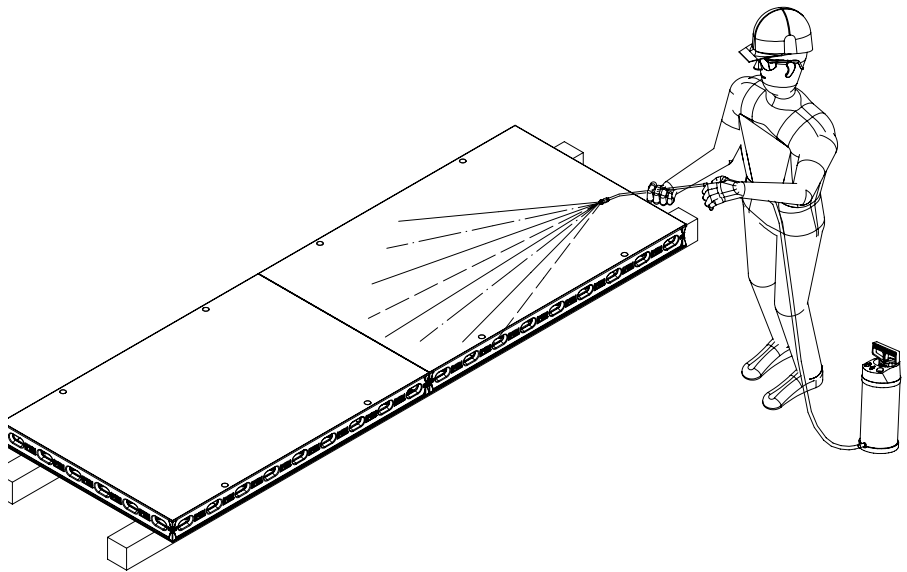

Fig. E1.00
- There is no chemical reaction between the composite material and concrete. In order to minimise the cleaning effort and reduce the wear of the formlining, spraying all parts with PERI Plasto Clean release agent before every use is recommended; alternatively, using a wax or solvent-based release agent is also possible. (Fig. E1.00) Do not use oil (e.g. diesel, kerosene). Observe safety data sheet.